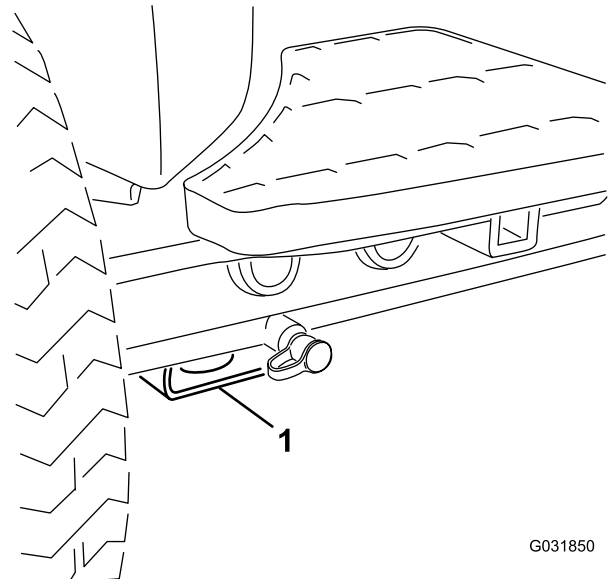

Figure 37
- Front—rectangular pad, under the axle tube, inside each front tire (Figure 37).